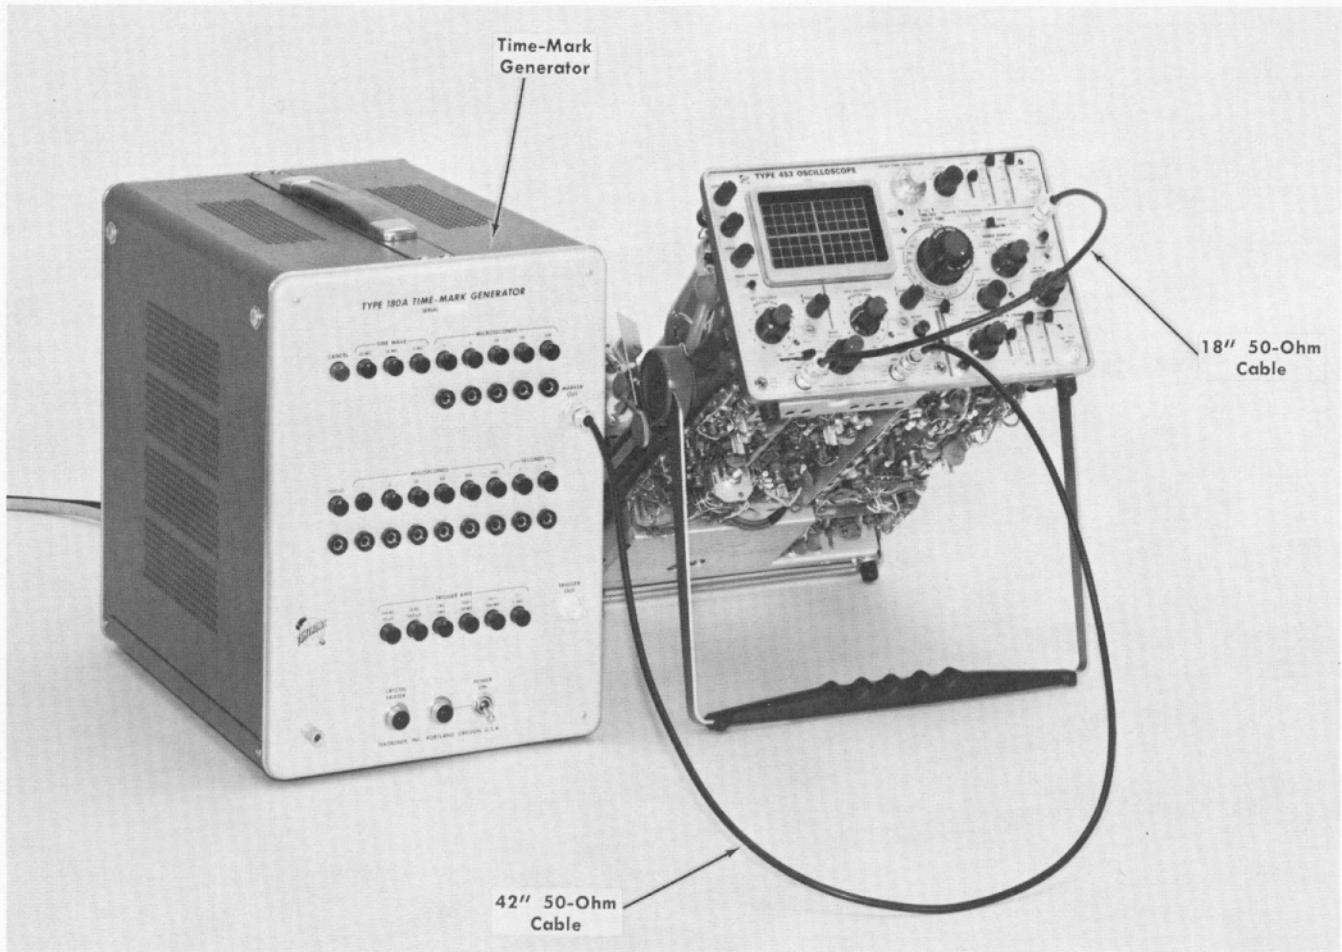

Fig. 6-58. Initial test equipment setup for steps 60 and 61.
- a. Test equipment setup is shown in Fig. 6-58.